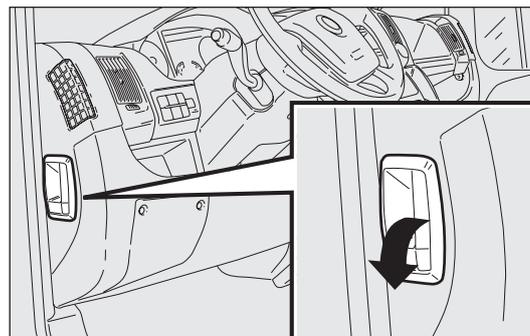

fig. 123
- pull the lever fig. 123 in the direction of the arrow;